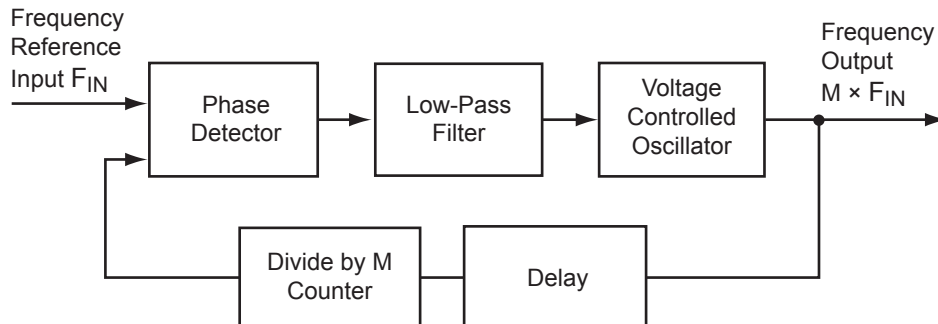

Figure 2-8 • Simplified PLL Core with Feedback Divider and Delay
This section briefly describes the basic principles of PLL operation. The PLL core is composed of a phase detector (PD), a low-pass filter (LPF), and a four-phase voltage-controlled oscillator (VCO). Figure 2-8 illustrates a basic single-phase PLL core with a divider and delay in the feedback path.
Consider Figure 2-8 with the feedback path bypassing the divider and delay elements. If the LPF steadily applies a voltage to the VCO such that the output frequency is identical to the input frequency, this steady-state condition is known as lock. Note that the input and output phases are also identical. The PLL core sets a LOCK output signal HIGH to indicate this condition.